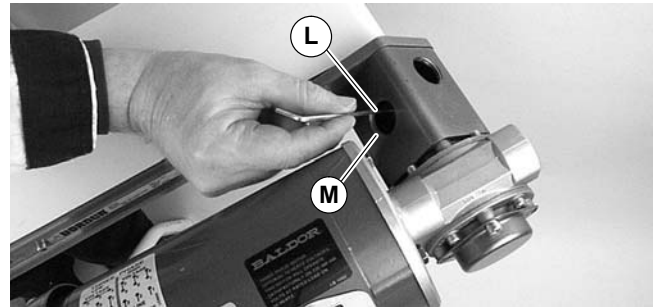

Figure 16
5. Jog motor and rotate coupling to align set screw (Figure 16, item L) with access hole (M). Tighten to 32 in-lb (3.7 N-m). Repeat for second set screw.
2. Jog motor and rotate coupling to align set screw (Figure 16, item L) with access hole (M). Loosen set screw. Repeat for second set screw.